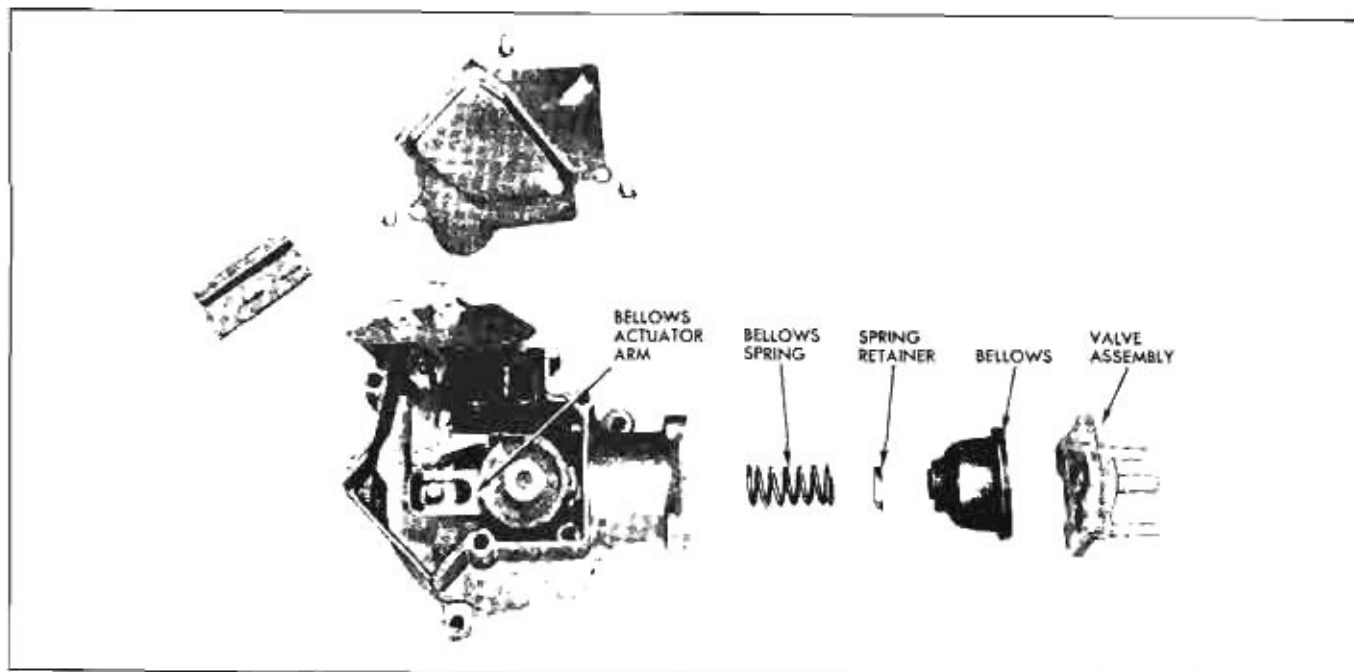

Fig. 11-116 Washer Pump—Exploded View
1. Remove the four screws that secure the valve assembly to the housing (Fig. 11-116) and gently pry the bellows lip out of the valve body.